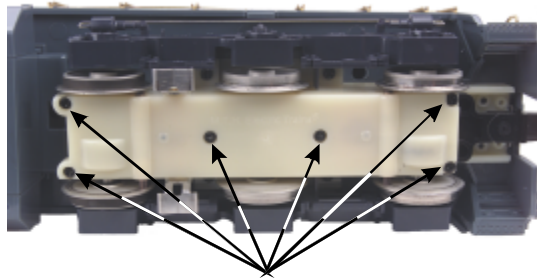

Figure 11: Truck Bottom Plate Mounting Screw Locations
1. Turn the engine upside down and remove the truck bottom plate mounting screws as seen in Figure 11.